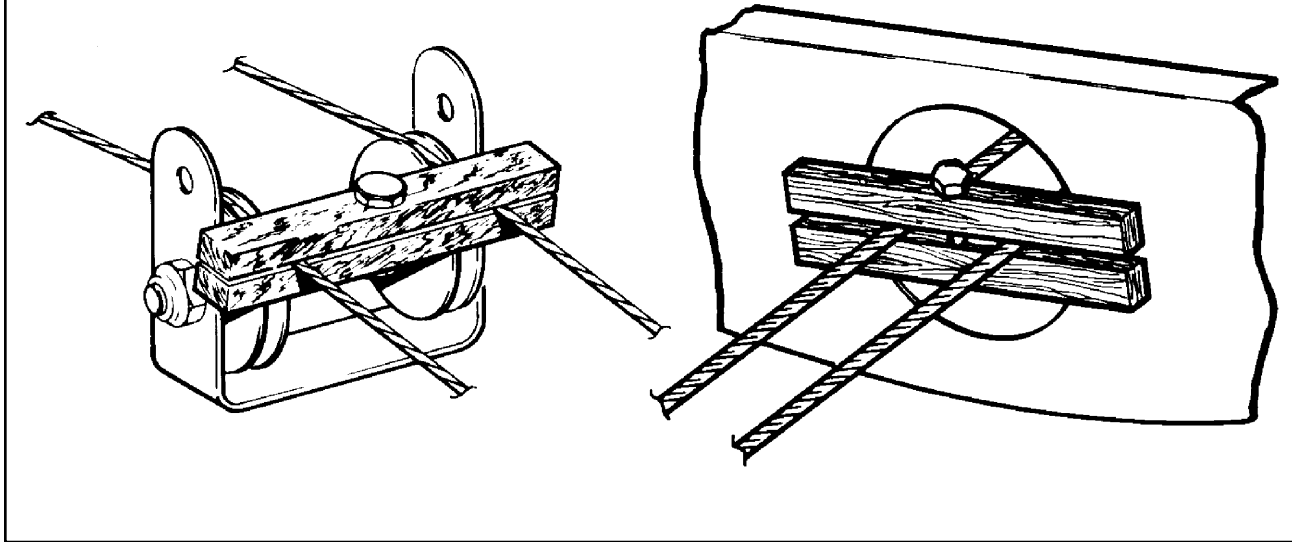

Figure 5-9. Methods of Securing Trim Cables
- e. Install a cable block on the aft trim control cables, as shown in Figure 5-9.
- (a) Block the first set of pulleys forward of the cable turnbuckles (8) in the aft section of the fuselage by the method shown in Figure 5-9.
- (c) Disconnect the links (19), located between the trim screw (11) and control arm (15) at the trim screw by removing nut, washers and bolt.
- (d) Remove the cotter pin that extends through the top of the trim screw and the cable guard pin located just aft of the trim barrel (21).
- (g) Disconnect the diagonal and horizontal (20) trim assembly support ribs from one another by removing their four attaching nuts, washers and bolts.
- d. The trim indicator cable (17) may be removed from the aft area of the fuselage by disconnecting the cable from the trim screw trunnion or at the lower end of the trim screw (11), removing the cotter pin cable guard at the pulley located below the trim screw and disconnecting the cable from the indicator wire.
2. Attach the horizontal (20) and diagonal support ribs to the aft bulkhead of the fuselage with bolts, washers and nuts. Start nuts only a few threads so as to allow ribs to hang loose. Do not connect the ribs at this time.
3. Wrap the trim barrel (21). To do this, first lay the center (as measured equally from each end to the center of the cable) of the trim cable in the slot of the barrel. Bring the upper cable through the diagonal slot in the flange at the upper end of the barrel and wrap down in a counterclockwise direction. Bring the lower cable through the diagonal slot in the lower end of the barrel and wrap up in a clockwise direction. Wrap the cable as evenly as possible to obtain 23 wraps on the barrel as viewed from the side opposite the slot and with the cables extending out from the slotted side.
4. Block both cables by clamping them between two pieces of wood laid next to the wraps to prevent them from unwrapping. (Refer to Figure 5-9.)
7. Install the trim screw (11) in the barrel and secure each end with a cotter pin through the screw.